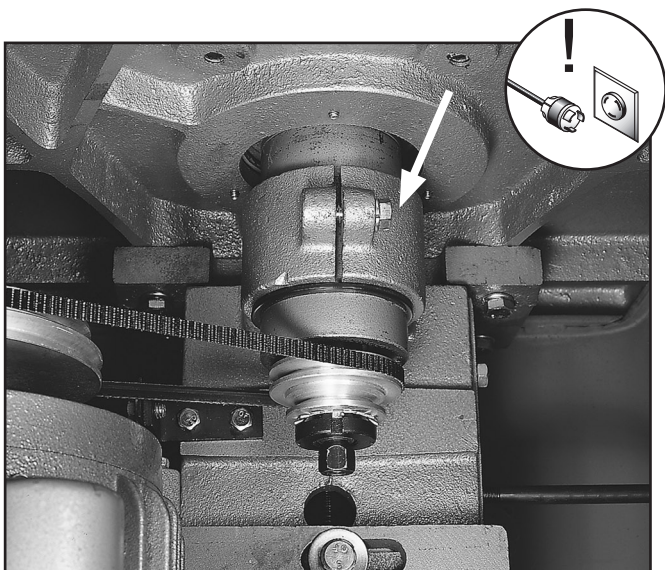

Figure 15. Locking bolt on spindle slide.
3. Loosen the locking bolt on the spindle slide shown in **Figure 15**.